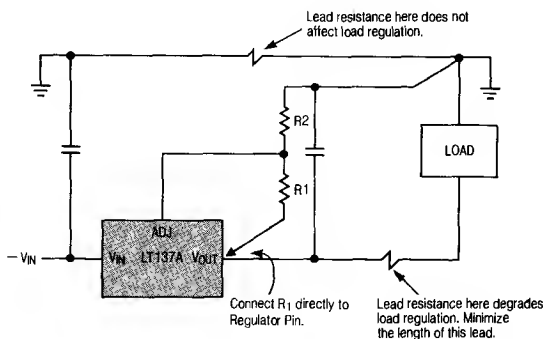

Figure 3
**Proper Connection of Divider Resistors:** The LT137A has an excellent load regulation specification of 0.5% and is measured at a point  $1/8"$  from the bottom of the package. To prevent degradation of load regulation, the resistors which set output voltage,  $R_1$  and  $R_2$ , must be connected as shown in Figure 3. Note that the positive side of the load has a true force and sense (Kelvin) connection, but the negative side of the load does not.